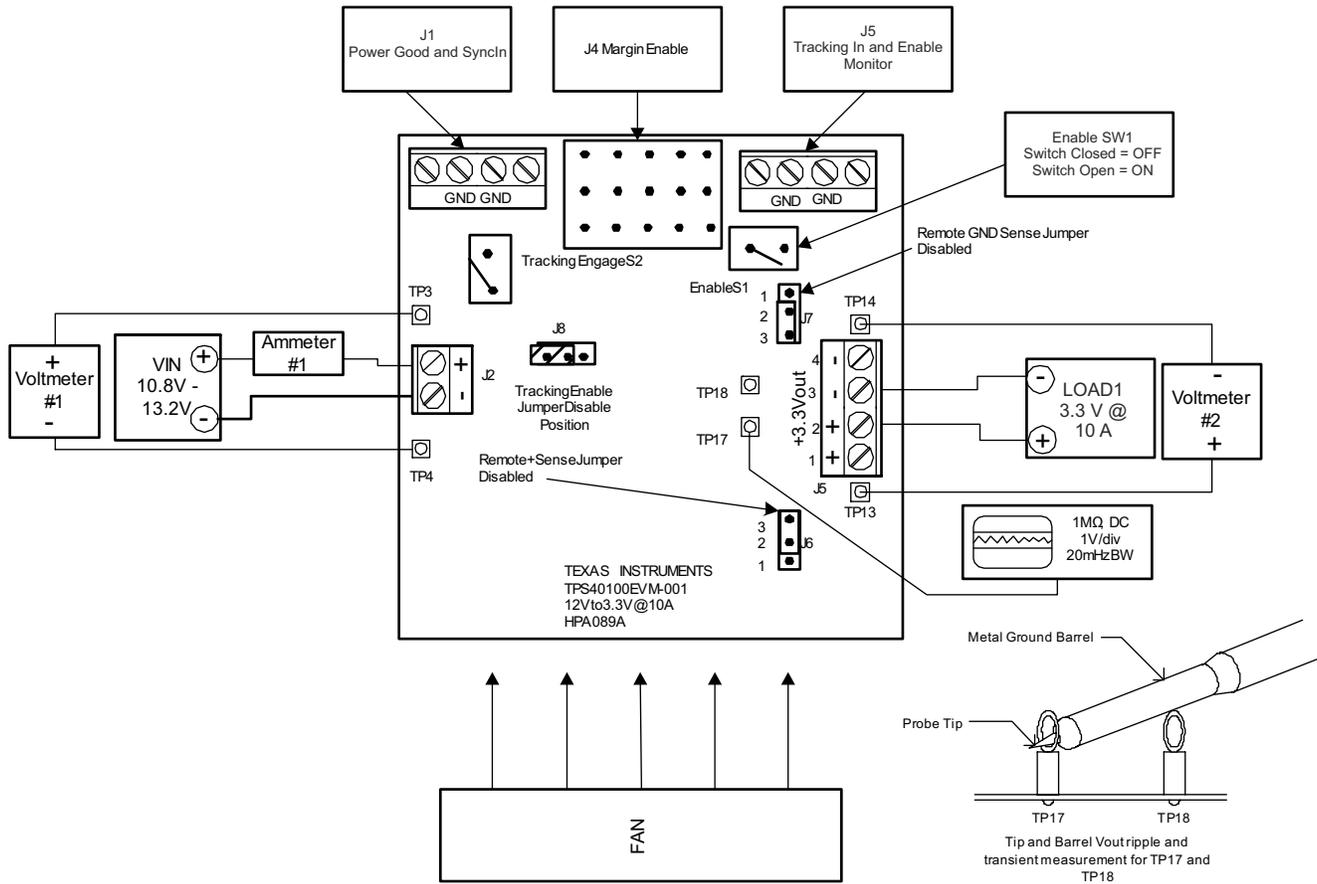
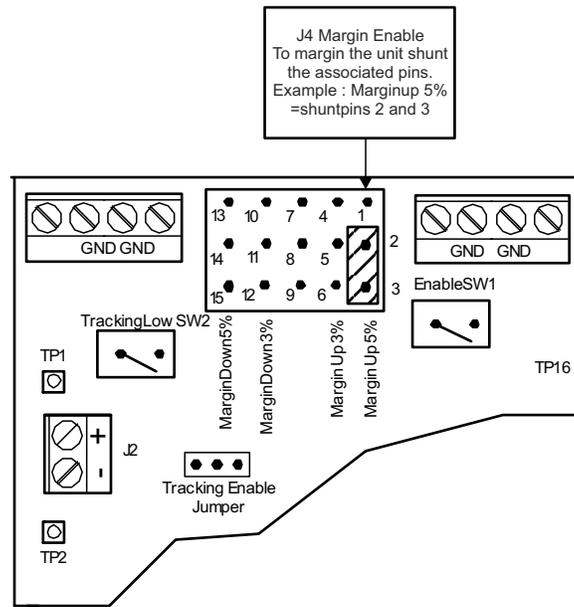

Figure 5-2. TPS40100EVM-001 Recommended Test Setup
Figure 5-10. TPS40100EVM-001 Margin Test Setup
The input voltage source (V_{IN}) should be a 0-V to 15-V variable DC source capable of 5 A_{DC} . Connect V_{IN} to J2 as shown in Figure 5-2.
Figure 5-2 is the basic test setup recommended for evaluating the TPS40100EVM-001. The EVM is shipped with the following in the default position:
2. Prior to connecting the DC input source, VIN, it is advisable to limit the source current to 5.0 A maximum. Make sure VIN is initially set to 0 V and connected as shown in Figure 5-2.
8. Place a fan as shown in Figure 5-2 and turn it on, making sure air is flowing across the EVM.
To begin testing, set up the EVM according to Figure 5-2. Choose the desired margin level. Connector J4 pins 3, 6, 12, and 15 are designated pins that can be connected to adjacent VIN pins (2, 5, 11, and 14) of J4 to enable the desired margin level. Please see Figure 5-10. For example, to margin the unit up 5%, connect a jumper across pins 2 and 3 of J4.